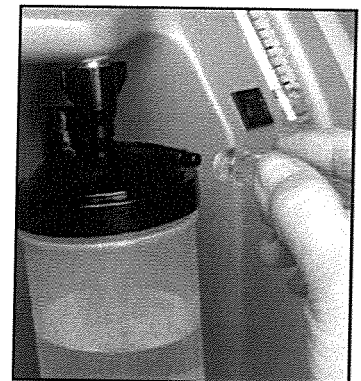

Figure 5
- c. Attach the oxygen tubing directly to the humidifier bottle outlet fitting (Figure 5).